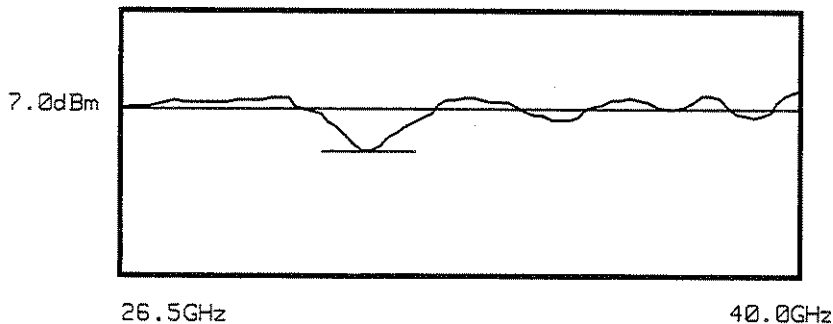

Figure 2-7. Minimum Power Point (26.5 to 37.2 GHz)
14. Find the minimum power point between 26.5 GHz and 40.0 GHz by slowly adjusting the TUNE knob from 26.5 GHz to 40.0 GHz while watching the power level readings on the power meter and noting at which frequency minimum power occurs. See Figure 2-7.